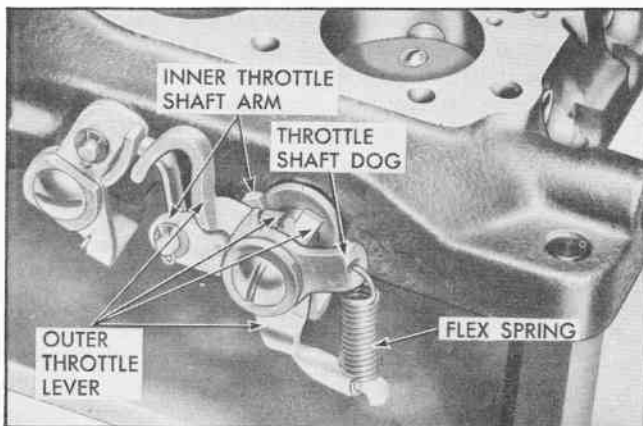

Fig. 19 Proper Assembly of Primary and Secondary Throttle Levers
7. Install primary shaft thrust washer, inner throttle shaft arm and throttle shaft dog. Hook throttle flex spring on outer throttle lever and throttle shaft dog and install outer lever on primary shaft (Fig. 19). Install washer and screw.
8. Using a flat washer on each side of the levers, install connector rod (Fig. 19). Retain with pin springs.